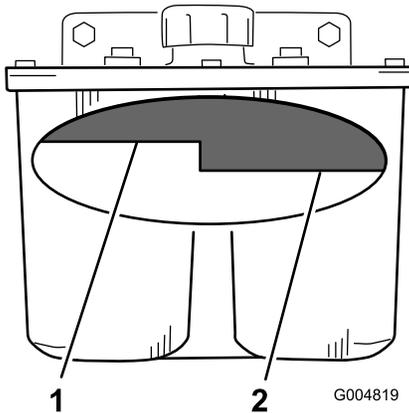

Figure 97
- Clean the area around the filler neck of the hydraulic tank (Figure 97).
- Remove the cap from the filler neck and look inside to check if there is fluid in the reservoir (Figure 97).
Note: The fluid level should be to the top of the hot level of the baffle, when the fluid is hot (Figure 97).